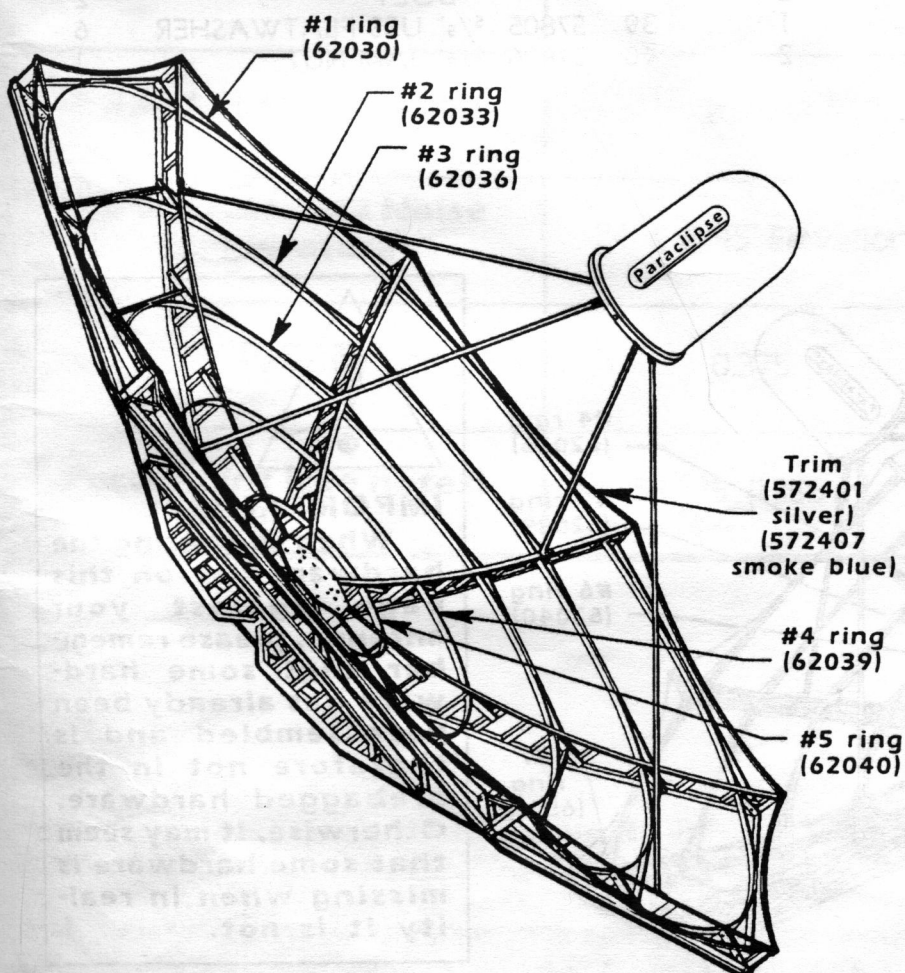

**FIG. 23
1. Correctly align the adjustment strut pipes and the long strut pipes so binding will not take place. The $\frac{5}{8}$ " nyloc nut on the $\frac{5}{8}$ " x 8 1/2" bolt that connects the polar "T" assembly to the EZ adjustment rods must be thoroughly tightened down. (The $\frac{5}{8}$ " USS flatwashers will begin to cup.) Take caution so as not to pull on the aligned antenna. (See Fig. 23)
2. Tighten the four $\frac{3}{8}$ " x 1" bolts that hold the adjustment strut pipes and the long strut pipes together. (See Fig. 23)